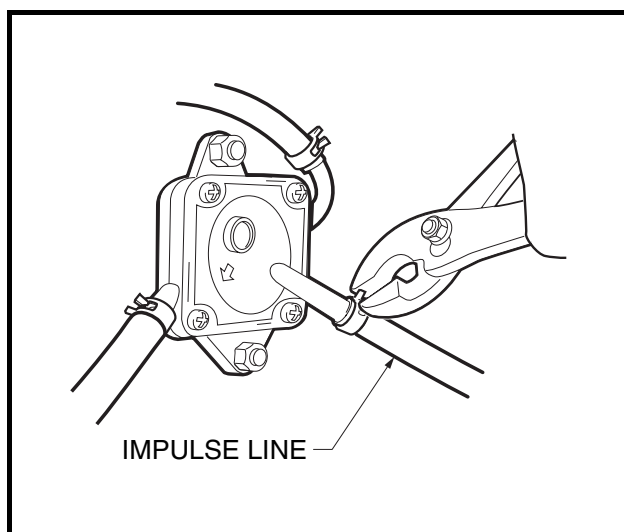

Figure 16-11 Impulse Line
- 4.3. Disconnect impulse line from fuel pump (**Figure 16-11, Page 16-8**).